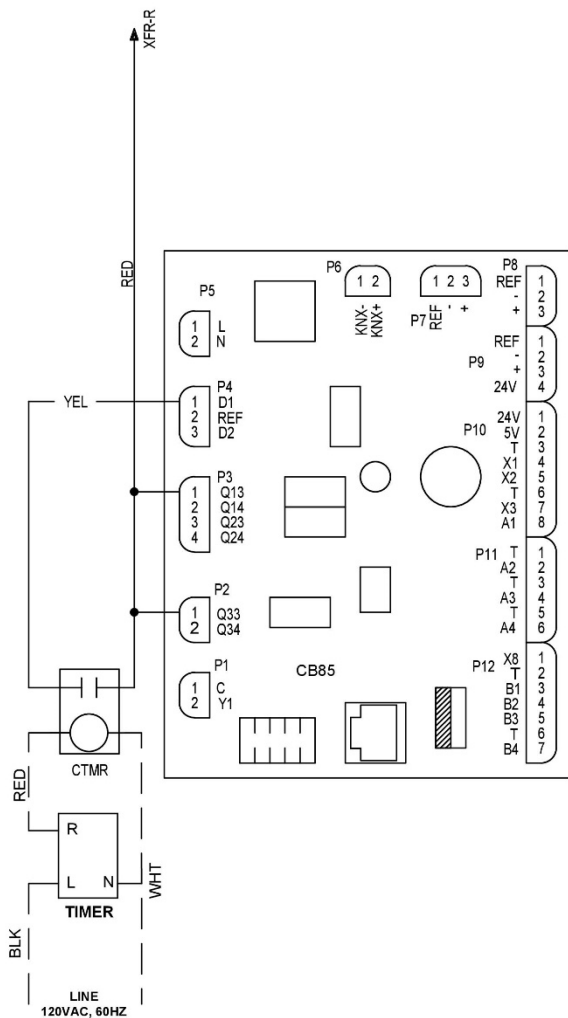

FIGURE 27 - Version 2 (120V Digital Timer Connection)
6. **FIGURE 27 - Version 2 (120V Digital Timer Connection)**).